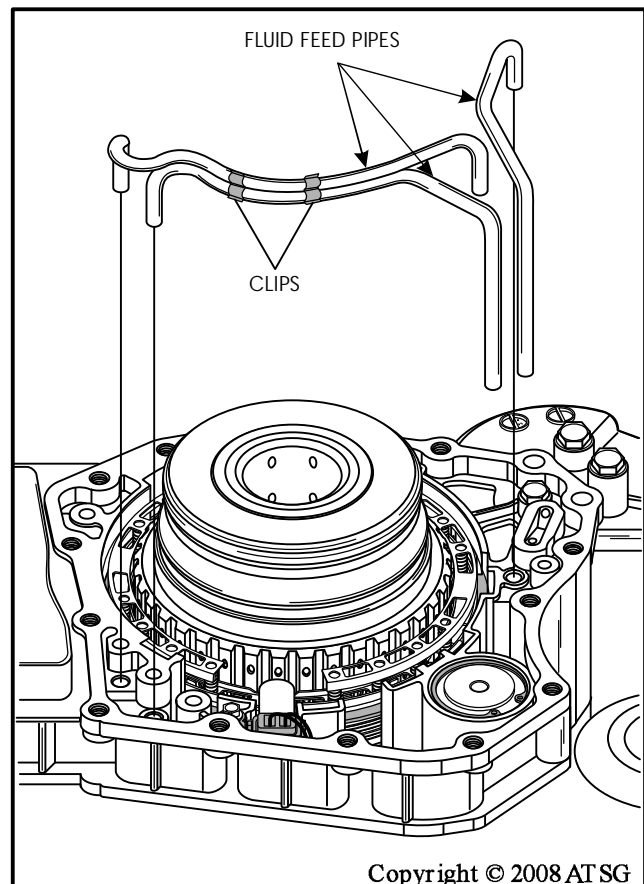

Figure 50
50. Remove the 3 fluid feed pipes using a large screwdriver (See Figure 50). Notice that two of the pipes are clipped together.